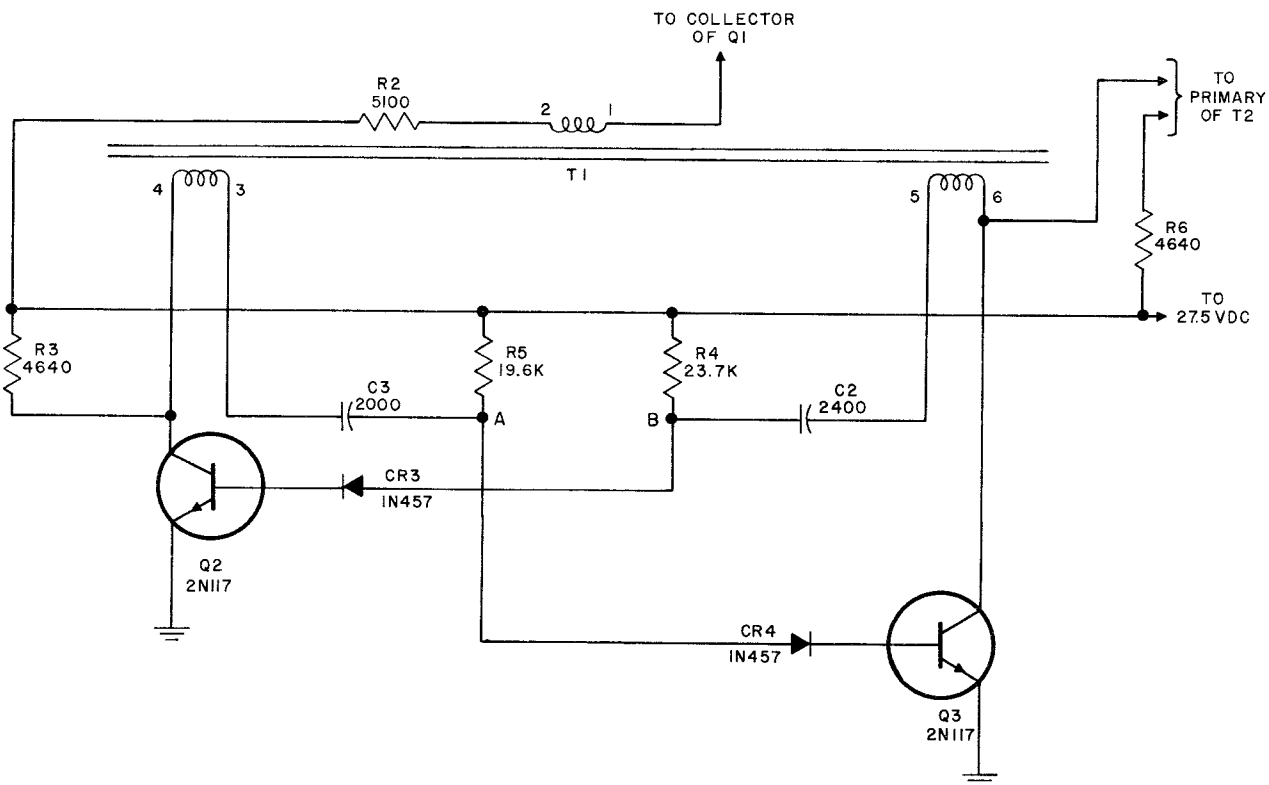

Figure 4-19. 20-Kc Divider, Simplified Schematic Diagram
2. 20-KC DIVIDER. - Refer to figures 4-19 and 4-20. Transistors Q2 and Q3 are connected in a free-running multivibrator circuit. The two secondary windings of transformer T1 are oriented so that the spike obtained across the primary is added to the base potentials of Q2 and Q3. The total capacitor discharging times of the two RC circuits in the base connections to the two transistors are different. The discharge time can be called the free-running time and is related to the RC product approximately by period =  $2/3$  RC. The period determined by R4 and C2 in the base lead of Q2 is about 35 usec, and that of R5 and C3 in the base of Q3 is about 25 usec. The 100-kc input produces 10-usec triggering pulses that are coupled through T1 to the bases of Q2 and Q3 where they become superimposed upon the discharging voltage. The shape of the discharging voltage curve permits one of the 10-usec pulses to cause a transistor to begin conducting collector current before the 35- (or 25-) usec period has actually been completed. Thus the 10-usec pulses lock Q2 to a 30-usec off period and a 20-usec on period. This produces a total cyclic period of 50 usec for the multivibrator Q2 and Q3 which produces a 20-kc output frequency. Diodes CR3 and CR4 prevent emitter breakdown.
sents the oscilloscope pattern of the triggering voltage at point A of figure 4-19. Since the amplitude of the 100-kc pulses is great enough to exceed the critical base bias voltage of Q3 5 usec before the 25-usec discharge time has elapsed, Q3 will conduct 20 usec after Q2. The Q3 collector voltage drop is transferred to the base of Q2, immediately cutting off conduction of Q2. The third 10-usec locking pulse on the discharging voltage at point B (figure 4-19) triggers Q3 back into conduction 5 usec before the 35-usec RC time has elapsed. This arrangement allows Q2 to conduct for 20 usec and Q3 to conduct for 30 usec, providing a total period of 50 usec for the multivibrator producing 20-kc output to the primary of transformer T2.